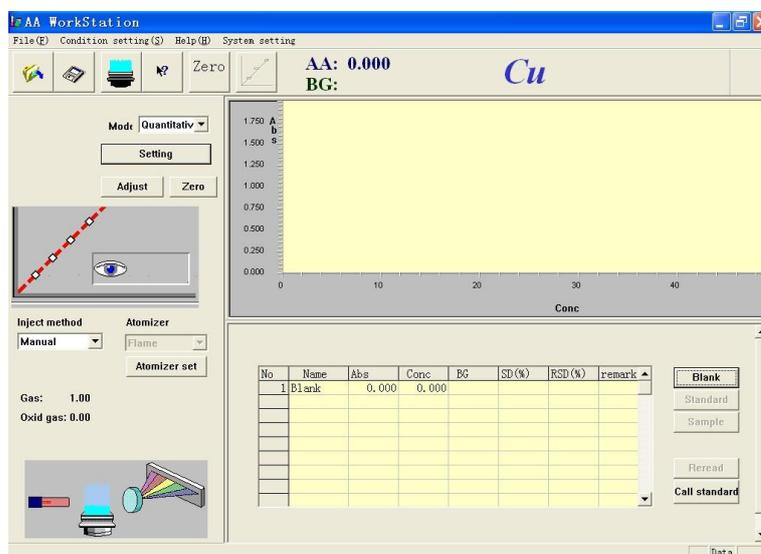

Figure 5-11
8. Suck deionized water, and press "Zero" to zero the instrument. After zeroing is entered, spray and suck the standard sample blank. Press "Standard blank", and the screen will be shown as that in Figure 5-11.